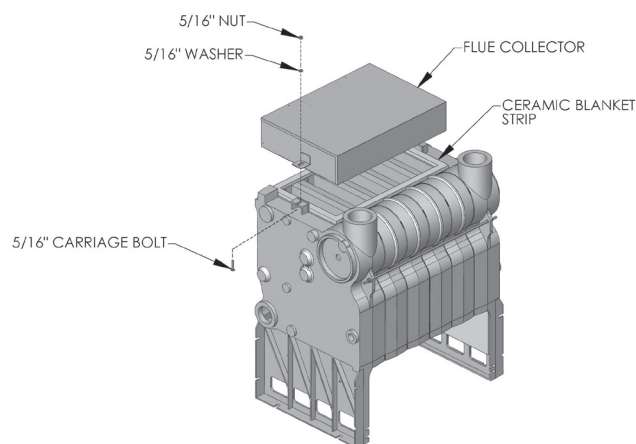

Figure 2.3: Flue Collector Attachment
3. Insert the two 1/4"-20 carriage bolts provided with boiler into the lugs on top of the boiler end sections as shown in Figure 2.3.